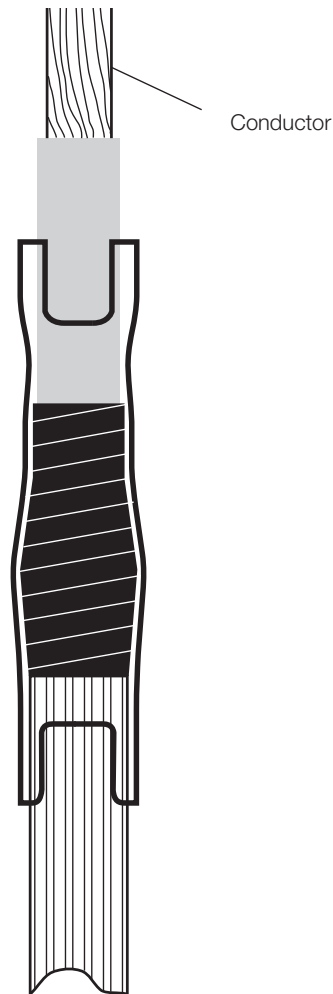

Figure 5. Prepared cable showing vinyl tape applied over mastic and seal in place
4. **Apply a thin uniform layer of the supplied silicone lubricant** over the cable and vinyl tape. Using the tabs on the large end of the premolded rubber jacket seal, pull the sleeve over the cable until the vinyl tape is completely covered. (See Figure 5.)